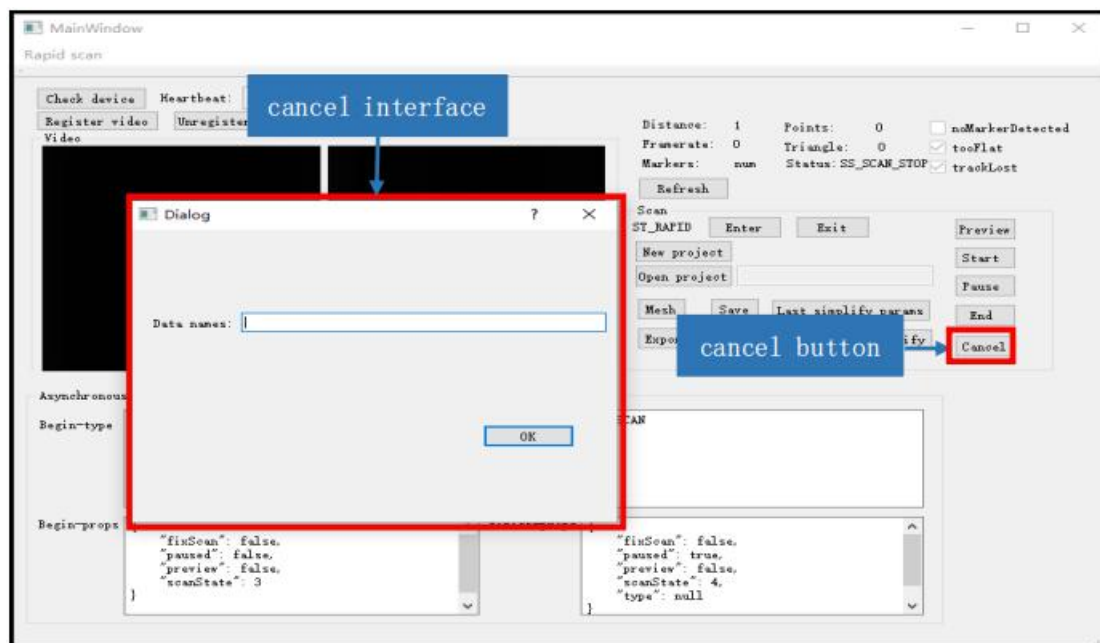

Figure 17 Cancel the scanning interface
1、 When the “Cancel” button is clicked, the interface is shown in figure 17, the parameter details are shown in table 9.